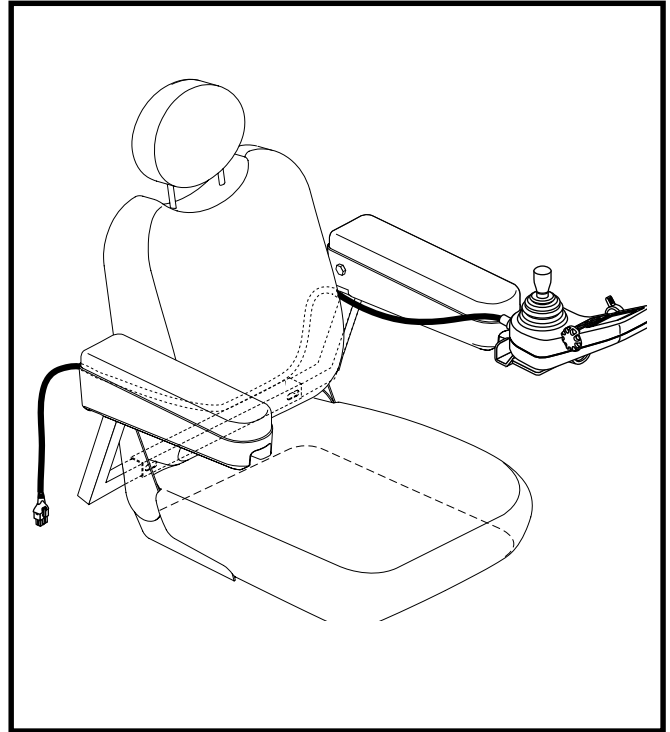

Figure 13. Controller Routed on a Contour Seat
8. Secure the controller cable to the armrest receiver with wire ties (contour seats only). See figure 13.